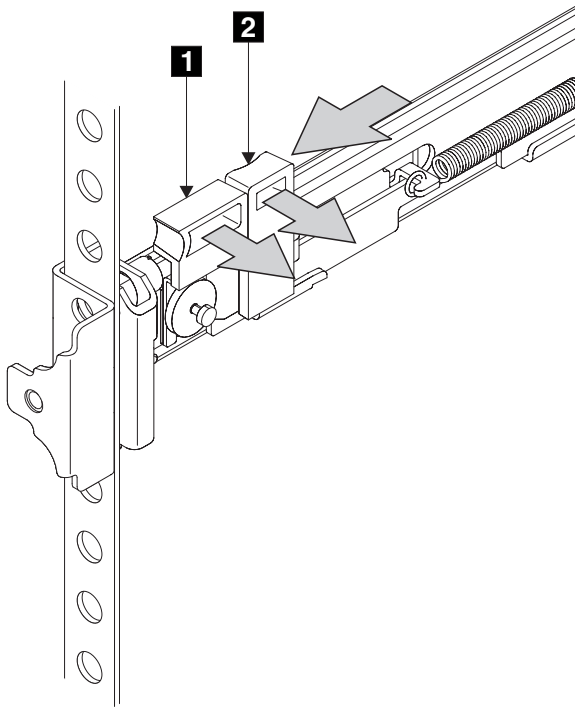

Figure 43. Closing the latch-lock carrier assembly
8. Push the latch lock **2** (Figure 43 on page 46) away from the rail to release the carrier. The latch-lock carrier slides toward the front of the rack and the locating pins project through the holes that are in the front flange and in the front rail bracket.